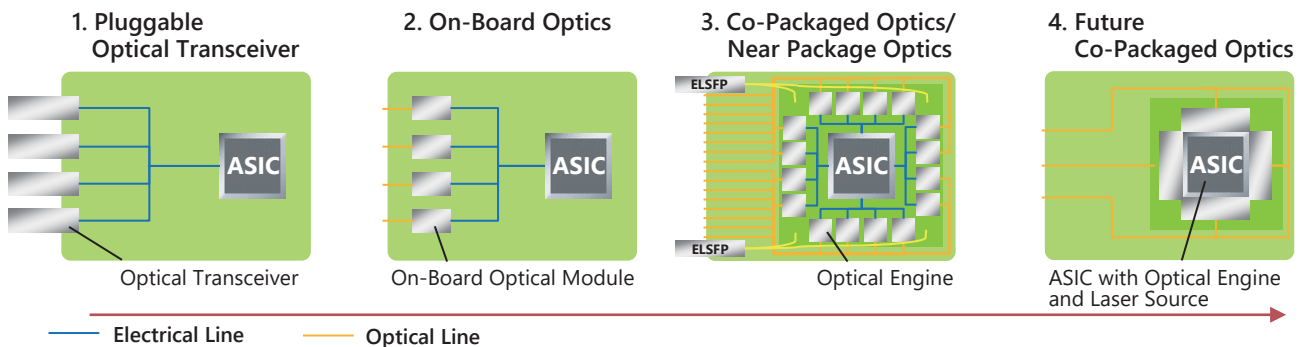
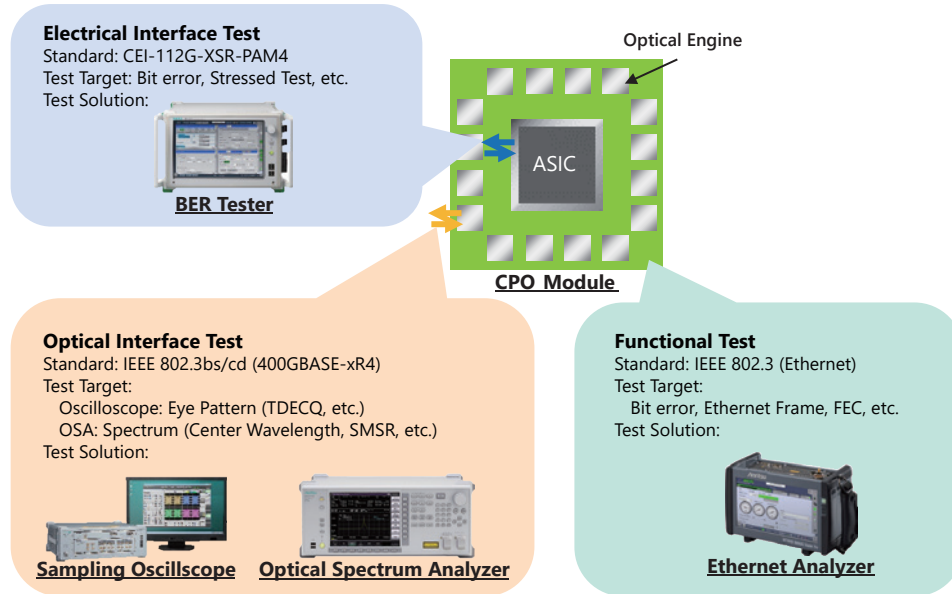

Figure 1 Evolution of Optical Transceivers.
Figure 2 CPO Module Test Points.
At the same time, to achieve larger capacity and higher integration, development of optical interfaces using Co-Packaged Optics (CPO) technology, which are fundamentally different from current optical transceiver interfaces, is in progress. The CPO is a package in which an optical module and a Switch ASIC using silicon photonics (SiP) technology are mounted on a board with the minimum required area. The standardization is being handled by the Optical Internetworking Forum (OIF) Co-Packaging Framework Implementation Agreement (IA), the Consortium for On-Board Optics (COBO) Co-Packaged Optics Working Group, etc. The OIF aims to implement 51.2 Tbps Ethernet switches using 16 optical engines each of 3.2 Tbps (8 × 400 GbE) surrounding a Switch ASIC, as illustrated in Figure 1. The Ethernet switches are expected as a new solution for achieving large-capacity transmissions while solving the issue of rising power consumption of data centers.
Figure 1 illustrates the evolution from pluggable optical transceivers to CPO. Currently, the CPO with an ASIC surrounded by optical engines is under investigation and a concept model is being announced. In addition, a Near Package Optics (NPO) design with improved maintenance using an external light source and connector is being discussed as a practical CPO implementation. Future higher integration combining the optical engines, laser source, and ASIC in a single chip is under consideration.
Figure 2 shows the test points for the CPO/NPO (item 3) shown in Figure 1. The main three test points are listed as follows: